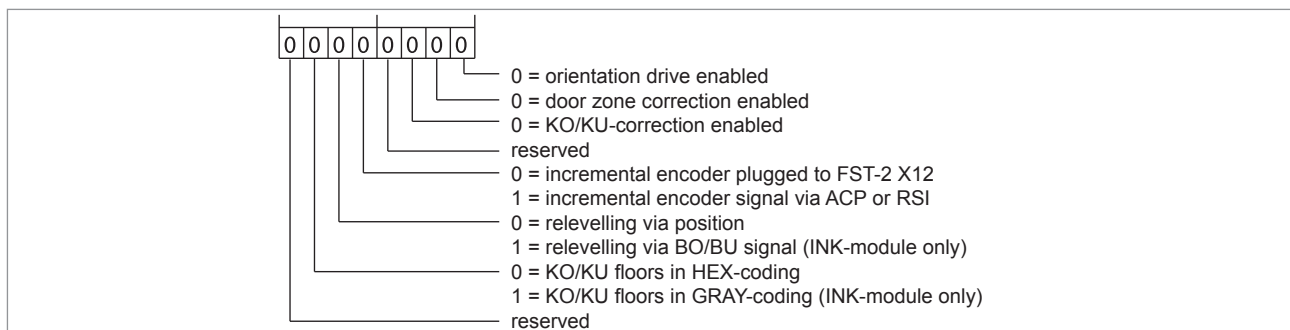

Fig. 6.2: Control register incremental positioning
- ▶ Set the numbers according to „Fig. 6.2: Control register incremental positioning“; the default setting is: `00000000`.